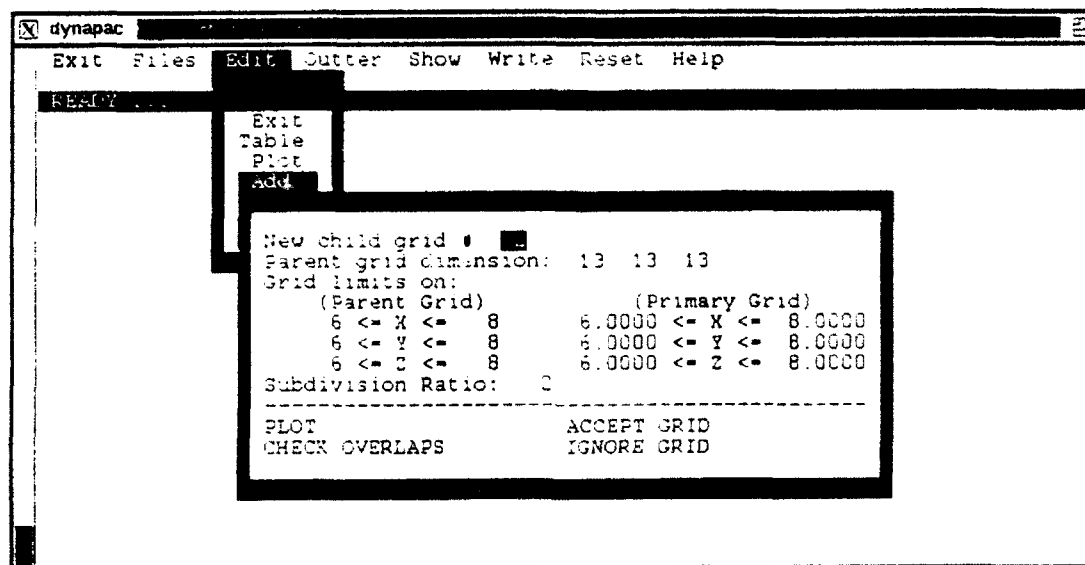

Figure 5.2 GridTool screen for the Edit/Add option.
6. Next, choose the "Add" option from the pull-down menu in order to place a subdivided grid around the two cubes. The screen now appears as in figure 5.2. Change the grid limits to run from 4 to 10 in the X direction and from 5 to 9 in the Y and Z directions. Accept the grid.